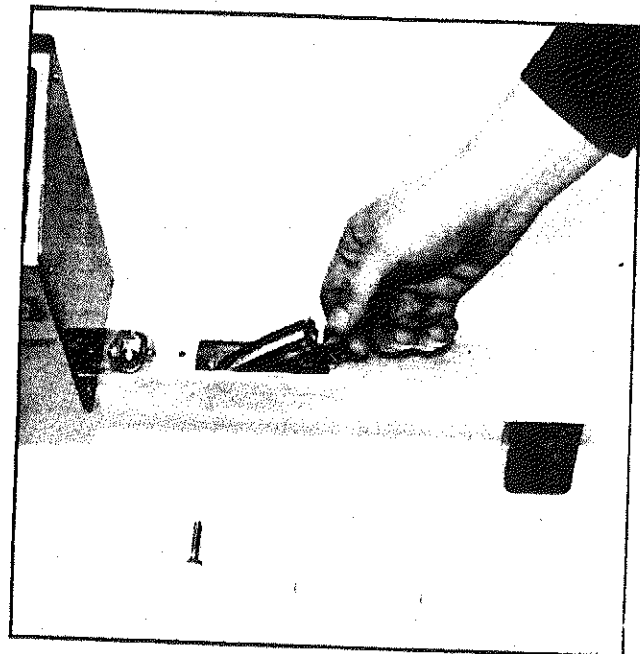

Figure 14. S.A.I. Vial Replacement
3. Install replacement S.A.I. vial as shown in figure 14.